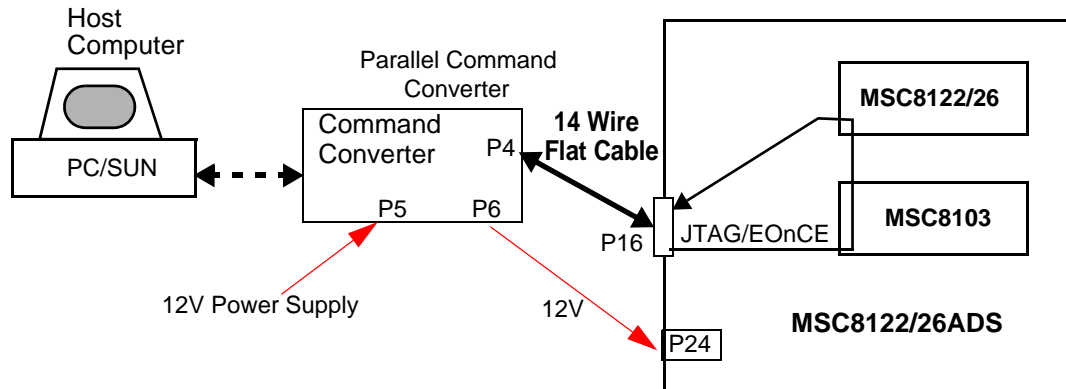
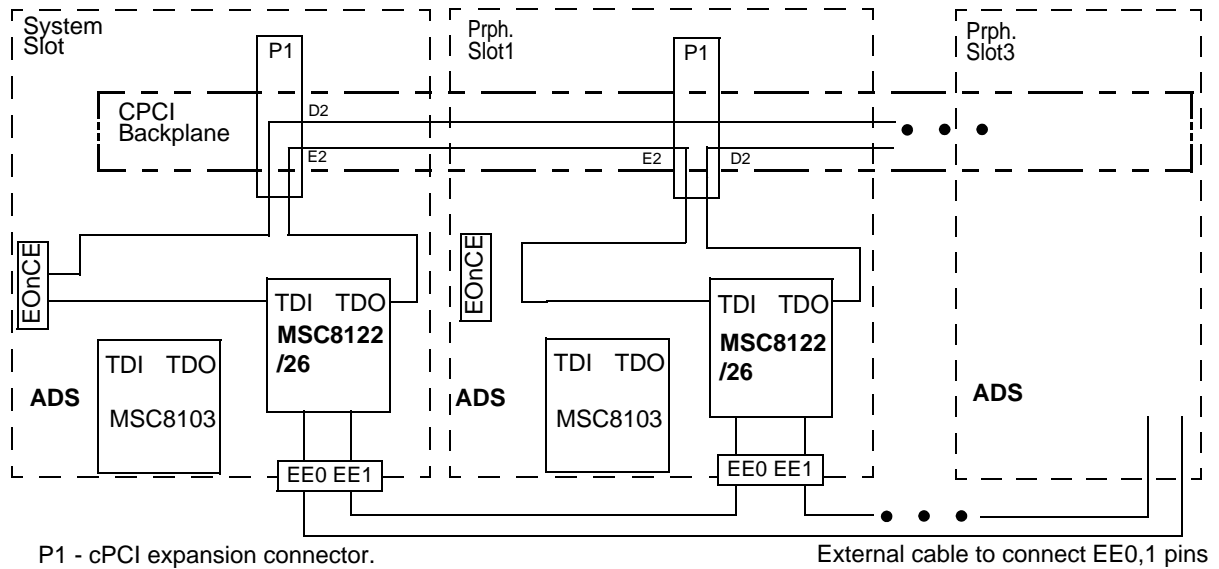

Figure 2-15. Host System Parallel-CC Debug Scheme
Figure 2-17. JTAG-chain on Backplane
On the ADS, host debug access is possible with any type of external Command Converter connected to the 14-pin JTAG/EOnCE connector, as illustrated in **Figure 2-15**.
Alternatively, when the MSC8122/26ADS board, together with the MSC8122/26 are part of a multi-board system (DSP farm emulation) the JTAG signals are driven from the DSI host board via a cPCI expansion connector, as illustrated in **Figure 2-17**.
1. Connect the PILOT / REV-A Parallel-CC or External Command Converter to the front EOnCE (P16) connector (for the host system debug scheme). The PROTOTYPE Parallel-CC board plugs into the front of connector J3. The Debug schemes are shown in **Figure 2-15** and **Figure 2-17**.